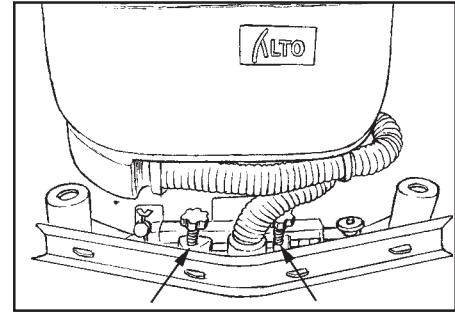

Figure 18
5. The amount of squeegee blade flare can be increased or decreased by adjusting the height of the two squeegee wheels (see figure 18).